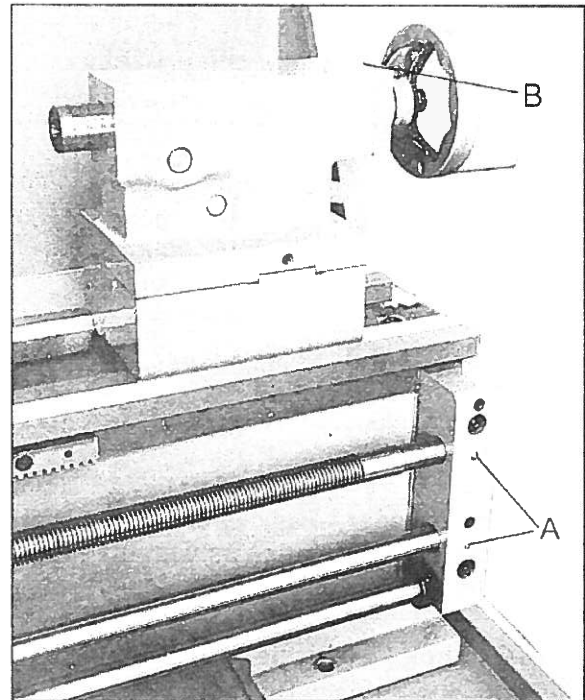

Fig. 5
8. **Leadscrew Feed Rod** – Lubricate two ball oilers on leadscrew feed rod bracket located at the right end of the lead and feed rod (A, Fig. 5) with 20W machine oil once daily.
9. **Tailstock** – Lubricate one oil port (B, Fig. 5) with 20W machine oil once daily.